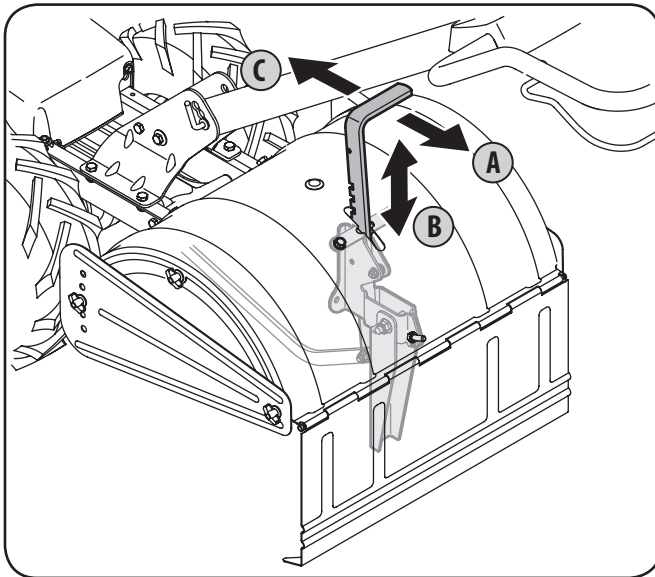

Figure 5-1
Pull back on the depth adjustment bracket (A) and push down (B) until the bracket reaches the highest notch. See Fig. 5-1. Then release the bracket (C).
To adjust the depth stake, pull back on the depth adjustment bracket (A) and push up or down (B) until the bracket reaches the desired position, see Fig. 5-1, then release the bracket (C).